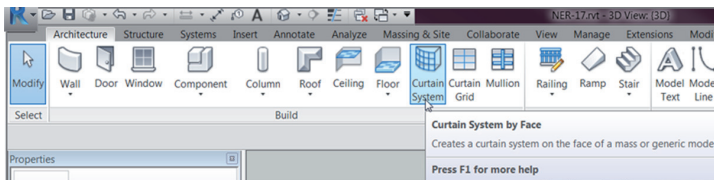

FIGURE BC1.48: Curtain System by Face
1. On the Architecture tab, click the Curtain System by Face button, as shown in Figure BC1.48.